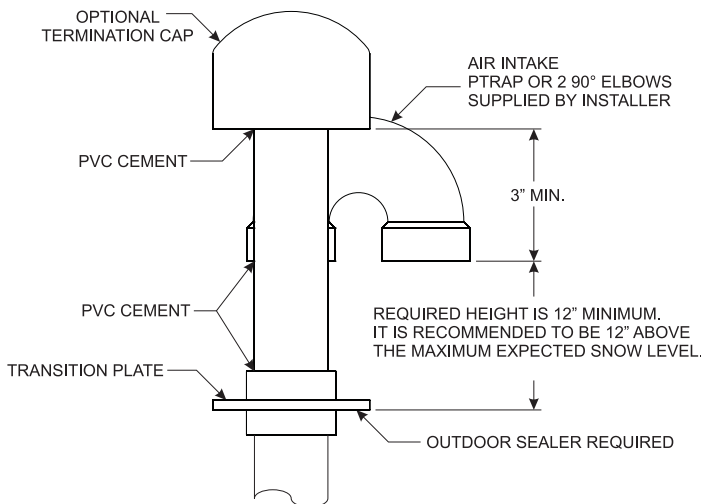

Figure 13
1. Attach the plate to chimney chase, flat roof, or outside wall with four (4) screws. Use outdoor sealant to seal the transition plate to the surface.
2. Cut inlet air pipe and flue exhaust pipe to correct lengths. For vertical terminations through the roof or chimney, the air intake and exhaust pipe termination must be a minimum of 12 inches above the roof line. It is recommended that the air intake and exhaust pipe termination be 12 inches above the maximum expected snow level. See Figures 13 and 14. When venting vertically, the exhaust pipe termination must be a minimum of 3 inches above the air intake. Also refer to local codes. For horizontal termination through outside walls, the minimum pipe length is 9 inches for exhaust pipe termination and 6 inches for the air intake.
In direct vent applications, the minimum distance between the two pipes is 3 inches and the maximum distance is 24 inches. The flue exhaust and air inlet can be terminated with either a PTrap or two 90° elbows as shown in Figures 13, 14, 15, 19 and 20. The Vertical Termination Cap shown on page 13 (Part number PVVTC) can also be used.